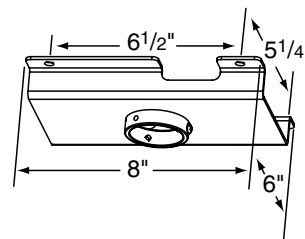
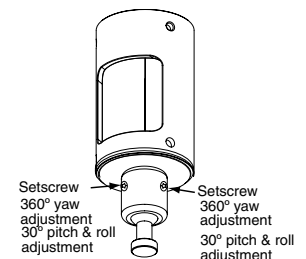

Figure 2
Figure 3
- ⑤ Use mounting plate to mark ceiling (see Fig. 2).
- ⑥ If appropriate, run wiring down through pipe and out through opening in Bracket Adapter.
- ⑦ Attach plate to ceiling. If using optional Angled Mounting Plate, attach Ceiling Mounting Plate to Angled Mounting Plate using 1/4"-20 x 5/8" long hex head screws (provided), then attach Angled Ceiling Mounting Plate to ceiling (hardware for ceiling attachment not included).
- ⑧ Install Aero Universal Projector Bracket on projector if applicable (see separate instructions). Then, attach bracket and projector to Aero Accuset ball joint. Adjust as necessary (see Fig. 3).